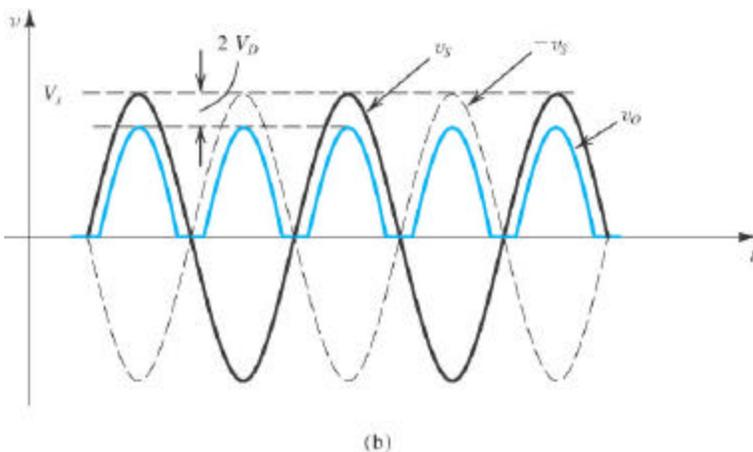

Fig. 3.27(d) { Sedra and Smith, Microelectronic Circuits, 5th edition }
- Compare the measurement with Fig. 3.27(b) {*Shown below*} from the textbook.